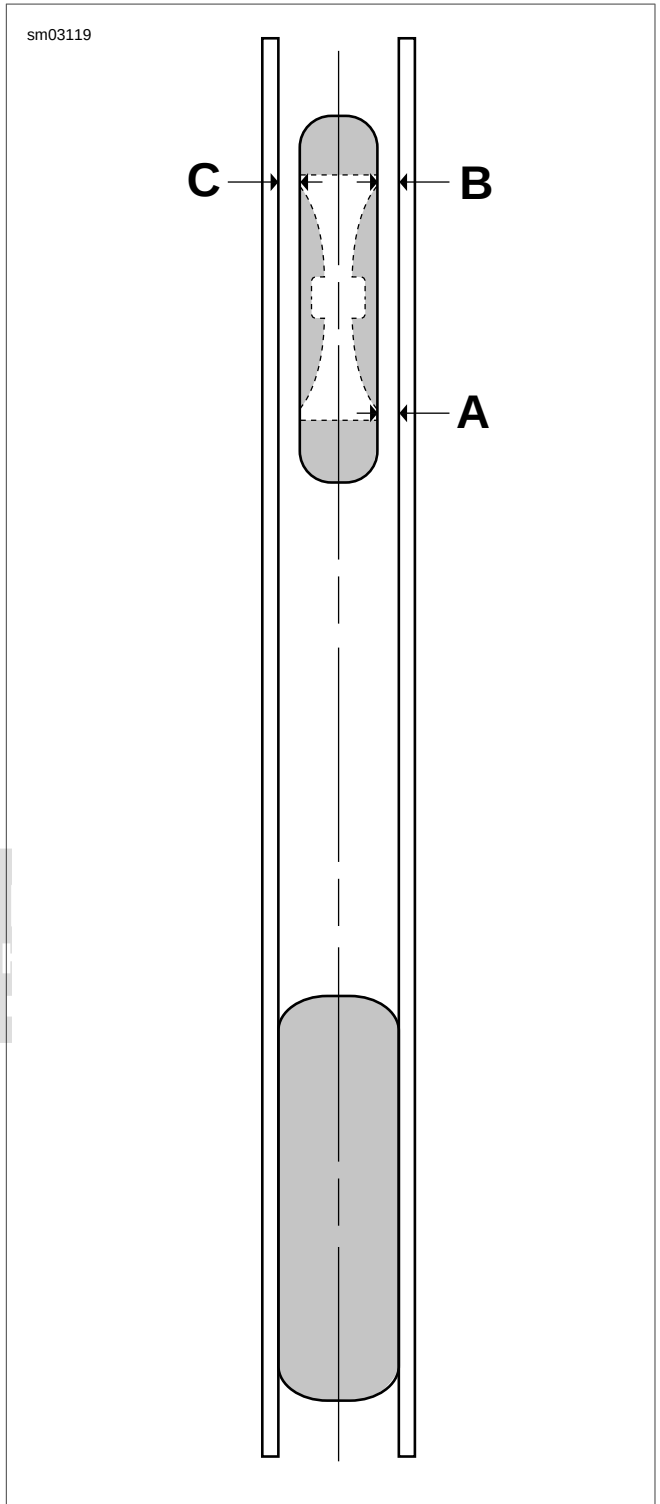
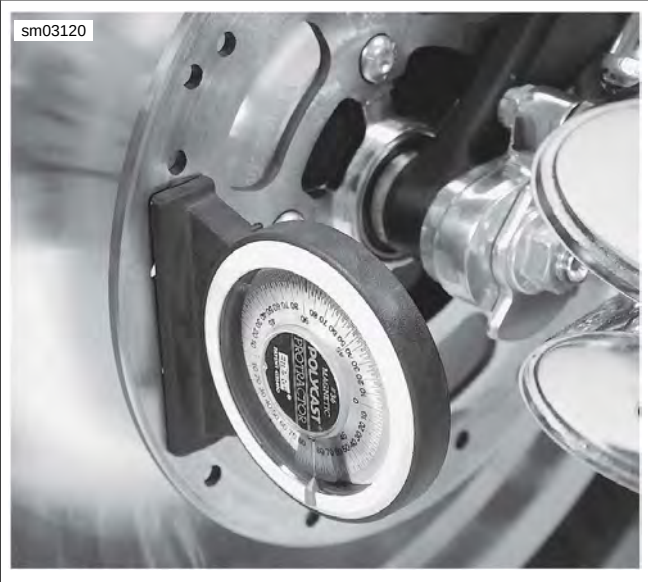

Figure 2-79. Wheel Alignment: When A = B and the Difference Between B and C is Less than ± 6.35 mm (0.250 in.), the Front Wheel is Aligned to the Rear.
Figure 2-80. Measuring Vertical Alignment (typical)
5. See Figure 2-79. Straighten the front forks and take measurements from the front wheel rim.
- a. Measure to the bar at the rear (A) and at the front (B) of the front rim (two points).
6. See Figure 2-80. Measure vertical alignment by placing an inclinometer vertically on front and rear brake discs. Front and rear lean angles should be equal within +/- 1/2 degree.
7. See Figure 2-79. On the other side of the motorcycle, measure from the alignment bar to the front wheel rim (C)
- a. See Figure 2-79. To straighten the front wheel, measure from the front wheel rim to the bar on one side at two points (A, B) along the wheel rim. Straighten the front wheel until the measurements are the same (A = B).
- c. On the other side, measure the from the rim to the bar (C) and compare (B - C) to the measurement from the opposite side. The measurements must be within +/- 6.35 mm (0.250 in.).